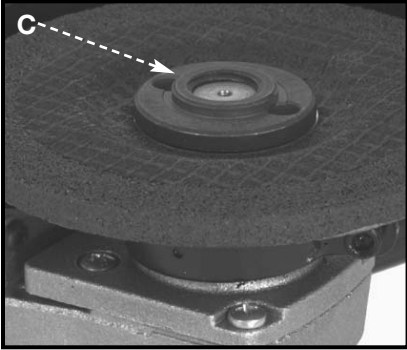

Fig. 8
For 1/8" thick **TYPE 27** wheels, assemble outer blade flange with flat side against the wheel (flange hub outward, away from wheel), see (C) Fig. 8.